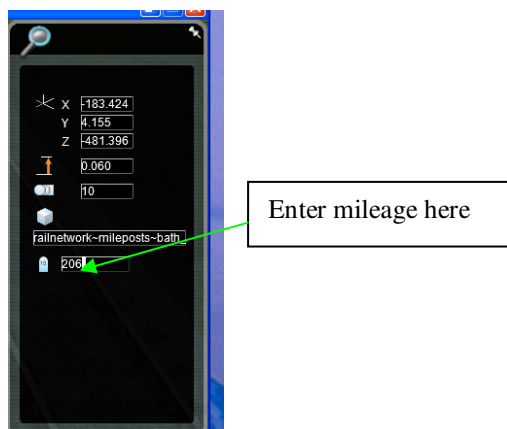

Figure 26 Details of Properties Box
- 5) In the Object Properties Box enter the mileage value required. (Fig.26)